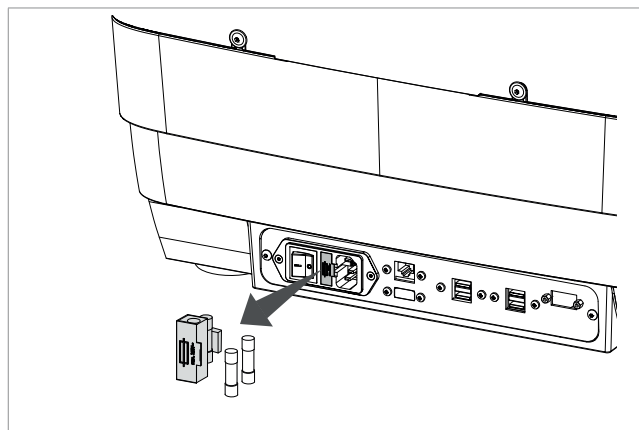

Fig. 81
2) Use a flat screwdriver to extract the fuse box from the socket (Fig. 81), remove the fuse and replace, if necessary.